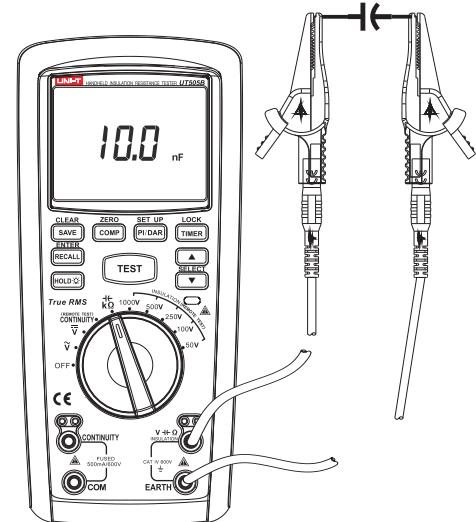

Figure 8
4.2 Measuring of Capacitance (See Figure 8)
- ① Insert the red probe into "V ∇ " jack (red jack), and black one into "EARTH" jack (black jack).
- ② Rotate dial switch to "KΩ/ $\frac{1}{4}L$ " tap position and connect the probe to two ends of tested capacitance in parallel.
- ③ Press "▼/SELECT" to select capacitance tap position.
- ④ Read current measuring value of capacitance from the display.
- ⑤ In measuring, if intending to save measured capacitance, press the key of "SAVE/CLEAR" for saving.